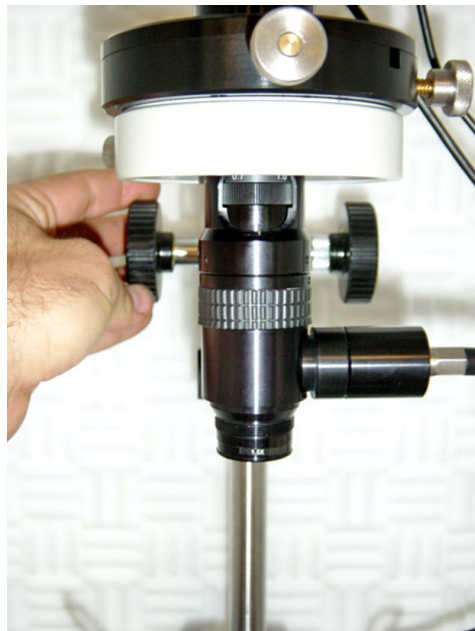

Figure 74 Lower focal plane just below tip
- d Lower the focal plane just slightly below the tip by turning the Z-position control toward you until the tip is slightly out of focus (Figure 74).